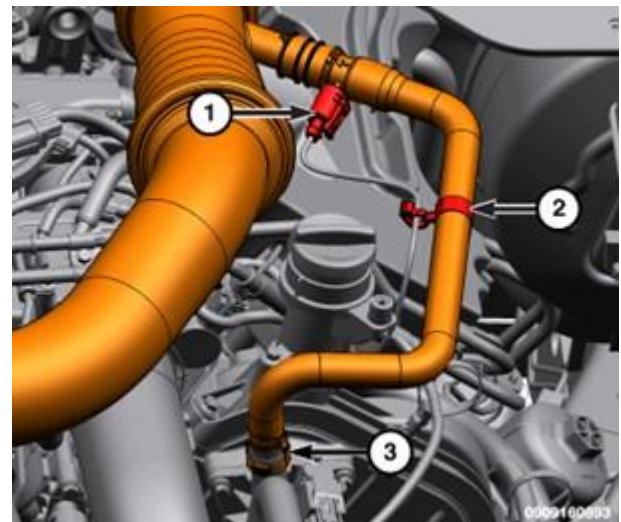

Figure 147 – Closed Crankcase Ventilation Connector
8. Disconnect the Closed Crankcase Heater Ventilation (CCV) heater wire harness connector (1) (Figure 147).
9. Detach the CCV heater wire harness retainer (2) (Figure 147).